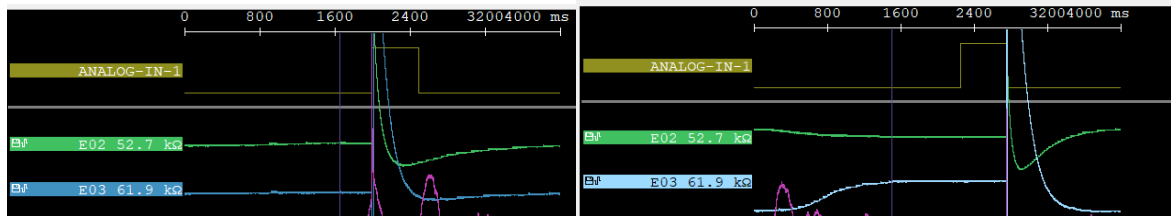

Fig. 74: Trigger on high (left) and low (right).
- When defining the trigger source as an analog input from a function generator, setting the "trigger on high" (**Fig. 74**, left) means that the stimulus pulse will be provided when the signal voltage transitions 1.65V from a lower voltage state (e.g., from 0V to +2V). Conversely, setting the "trigger on low" (**Fig. 74**, right) means that the stimulus pulse will be provided when the signal voltage transitions 1.65V from a higher voltage state (e.g., from +2V to 0V)